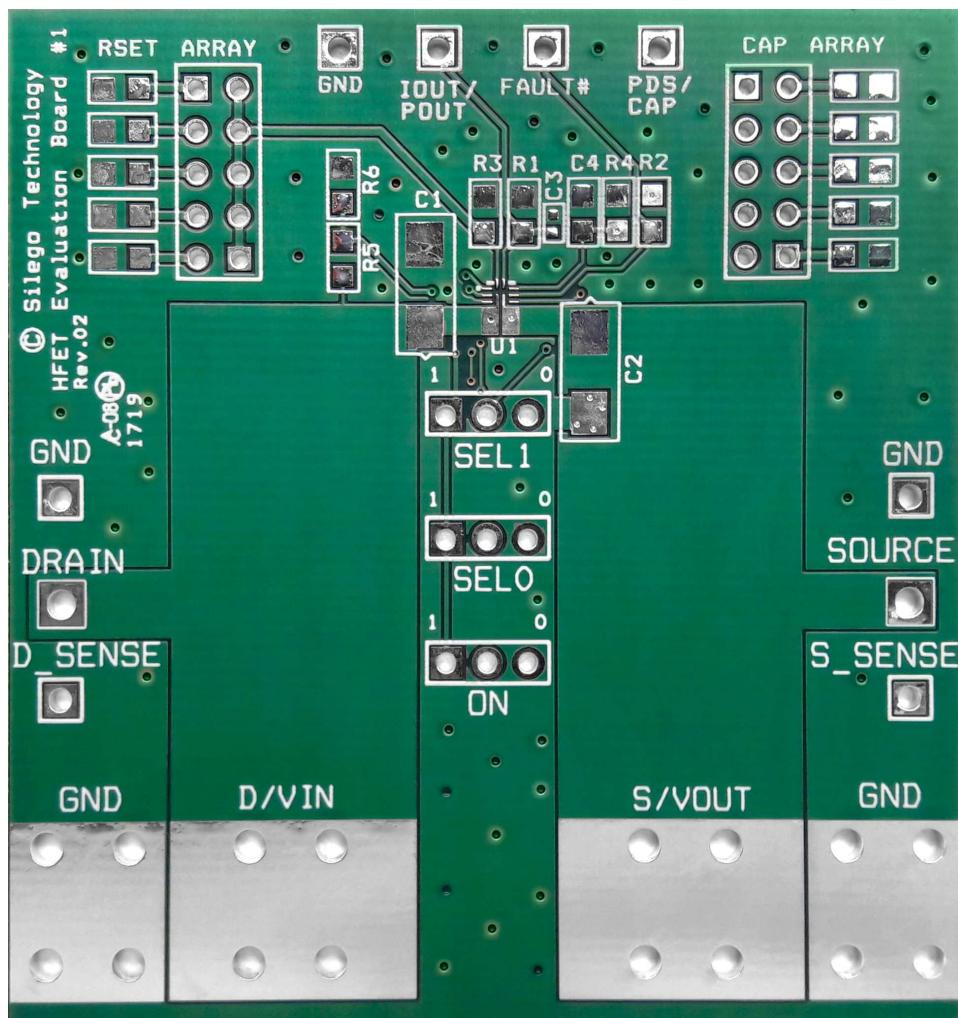

Figure 17. SLG59H1012V Evaluation Board
1. Since the VIN and VOUT pins dissipate most of the heat generated during high-load current operation, it is highly recommended to make power traces as short, direct, and wide as possible. A good practice is to make power traces with absolute minimum widths of 15 mils (0.381 mm) per Ampere. A representative layout, shown in Figure 17, illustrates proper techniques for heat to transfer as efficiently as possible out of the device;
A High Voltage GreenFET Evaluation Board for SLG59H1012V is designed according to the statements above and is illustrated on Figure 17. Please note that evaluation board has D_Sense and S_Sense pads. They cannot carry high currents and dedicated only for RDS_{ON} evaluation.